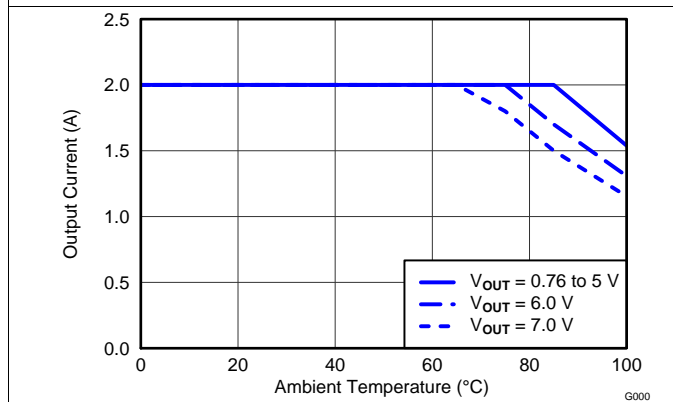

Figure 9. D Package Output Current vs Ambient Temperature
(1) D package, $V_{OUT} > 5$ V (see Figure 9 for temperature derating)